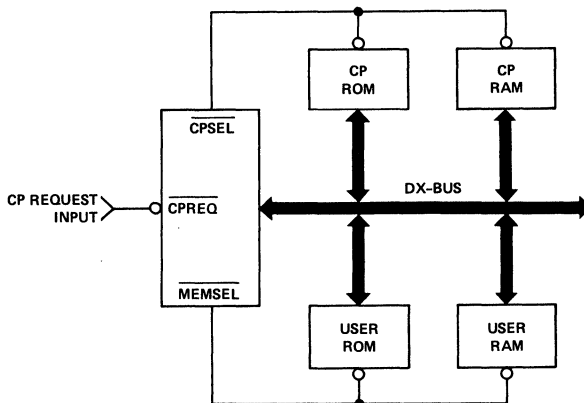

FIGURE 11 – Control Panel Block Diagram
The HM-6100 CPU provides a unique Control Panel (CP) feature through its $\overline{\text{CPREQ}}$ input and $\overline{\text{CPSEL}}$ output lines. After acknowledging the control panel request, the CPU generates the necessary timing to execute program code in CP memory while also providing the capability to transfer data between CP memory and the user memory using the AC as a buffer. This allows the user memory to be examined and/or modified by the CP software. The CPU will output the $\overline{\text{MEMSEL}}$ signal for all user memory references while the $\overline{\text{CPSEL}}$ signal is generated for CP memory references as shown in Figure 11.